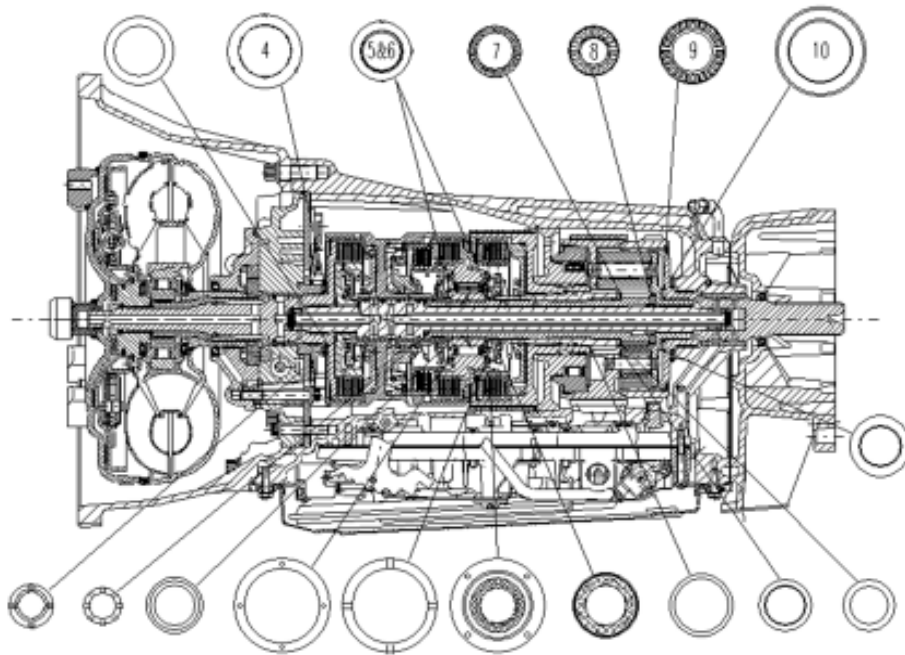

Figure 8.19 Position of thrust bearing and sealing pad
- g. Coat the small nylon thrust insulation plate with the Vaseline and installs it on the overspeed shaft. Refer to Figure 8.19.
- i. Use the Vaseline to install the small copper C1 wheel axle thrust washer, shown as Figure 8.19.